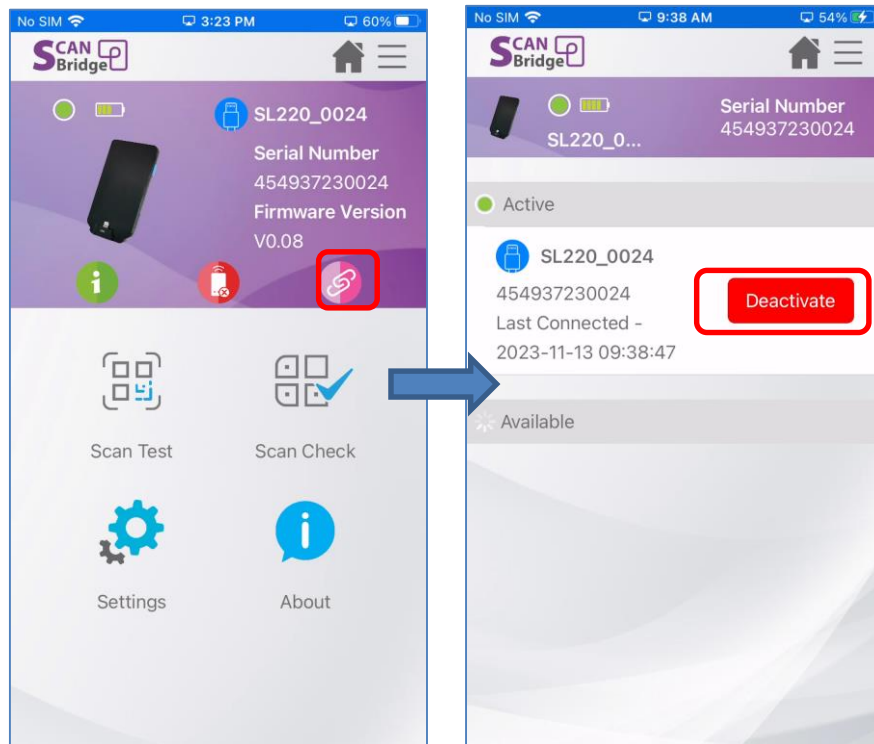

Figure 4.2.1
- ScanBridge also provide a device manage panel to deactivate device: “Deactivate” button in Figure 4.2.1.